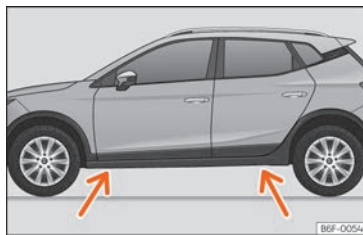

Fig. 199 Jack position points.
- Look on the strut for the mark of the jack support point (sunken area) closest to the wheel to be changed » **Fig. 199**.